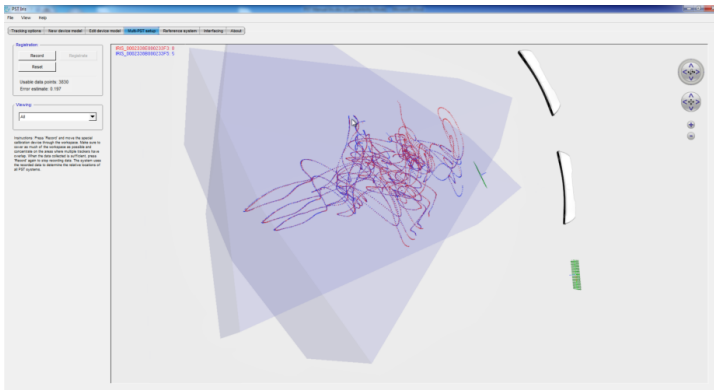

Figure 7.18: Registration results
4. Press the “Registrate” button to execute the registration procedure. This can take from a few seconds to a couple of minutes, depending on the number of the points collected during the registration procedure. Upon completion, the registration results are shown in the live view. The recorded point trajectories should be placed on top of each other (as illustrated in Figure 7.18), where the error estimate indicates the quality of the registration. An error below 0.5 can generally be considered a good value.